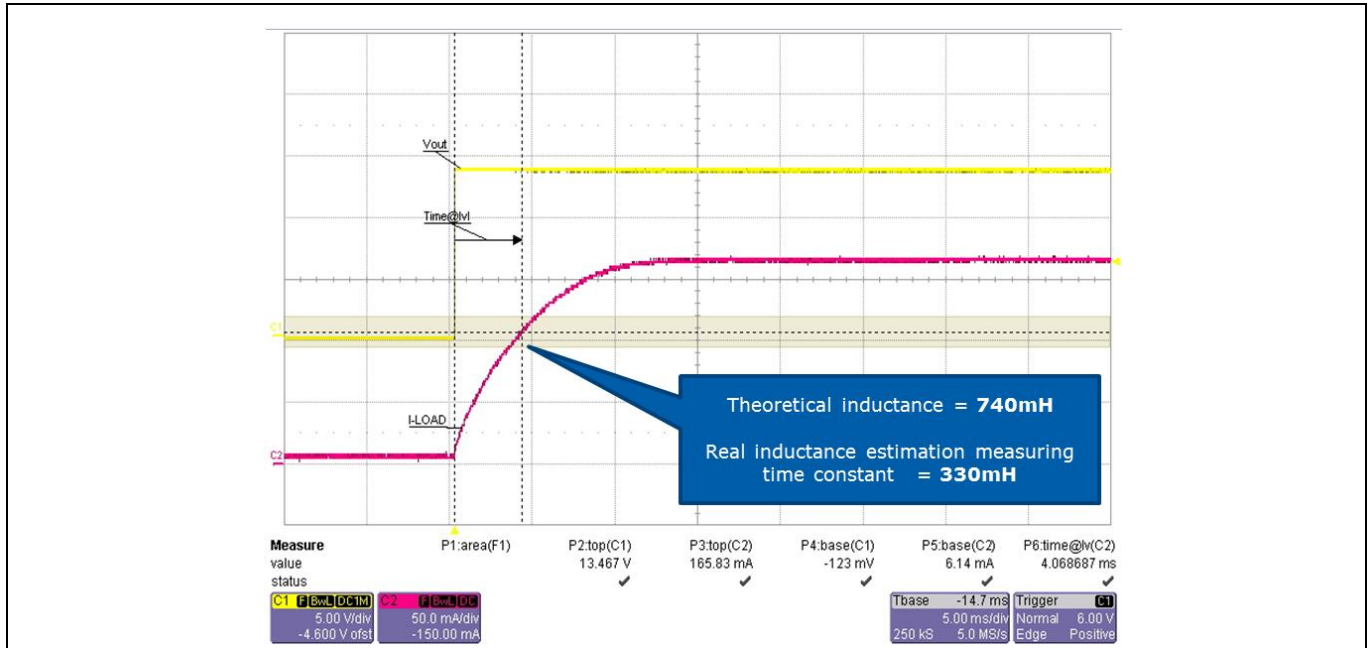

Figure 13 Estimation of relay coil inductance by lab measurements
Figure 13 shows an actual lab measurement made for the relay used in the previous calculation, specified as 170 mA at 13.5 V, with an inductance of 740 mH. As can be seen in the graph, the steady state current (C2, purple) is 165.8 mA to a step response of approximately 13.5 V (C1, yellow) which results in a coil resistance that is very close to that specified by the relay supplier, with a quick calculation, the coil resistance results in 81.2 Ω .
In the same Figure 13, it can also be seen that it takes approximately 4.07 ms to reach the 62.3% of the steady state value, resulting in an inductance of 330.4 mH, which is less than half the inductance of 740 mH specified by the relay supplier. Reevaluating equation (7) with the updated inductance value, the resultant inductive energy is 8.2 mJ, which is now within device specification; it is important to note that the worst-case inductive energy event will occur at higher voltages and lower temperatures; therefore, it is recommended to perform this testing at different operational voltages and temperatures.